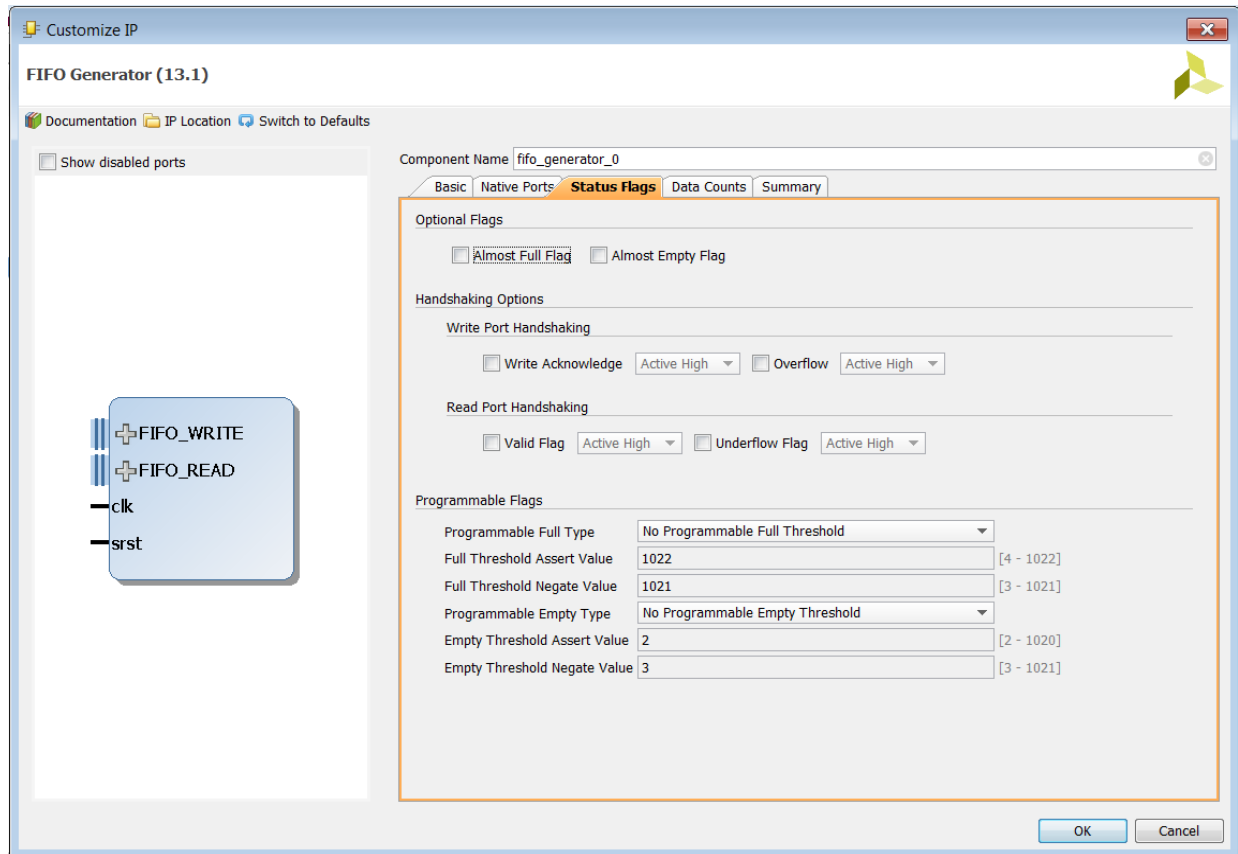

Figure 4-3: Status Flags Tab
- Common Clock (clk), Block RAM: See Common Clock FIFO: Block RAM and Distributed RAM in Chapter 3 for details. This implementation optionally supports first-word-fall-through (selectable in the Status Flags tab, Figure 4-3).
- Common Clock (clk), Distributed RAM: For details, see Common Clock FIFO: Block RAM and Distributed RAM in Chapter 3. This implementation optionally supports first-word-fall-through (selectable in the Status Flags tab, Figure 4-3).
- Common Clock (clk), Built-in FIFO: For details, see Common Clock: Built-in FIFO in Chapter 3. This implementation optionally supports first-word fall-through (selectable in the Status Flags tab, Figure 4-3).
- Independent Clocks (rd_clk, wr_clk), Block RAM: For details, see Independent Clocks: Block RAM and Distributed RAM in Chapter 3. This implementation optionally supports asymmetric read/write ports and first-word fall-through (selectable in the Status Flags tab, Figure 4-3).
- Independent Clocks (rd_clk, wr_clk), Distributed RAM: For more information, see Independent Clocks: Block RAM and Distributed RAM in Chapter 3. This implementation optionally supports first-word fall-through (selectable in the Status Flags tab, Figure 4-3).
- Independent Clocks (rd_clk, wr_clk), Built-in FIFO: For more information, see Independent Clocks: Built-in FIFO in Chapter 3. This implementation optionally supports first-word fall-through (selectable in the Status Flags tab, Figure 4-3).